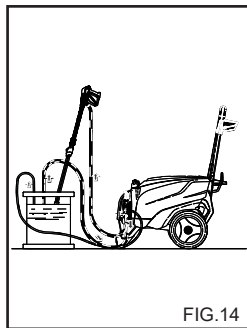

FIG.14
**FREMANGSMÅTE VED BRUK AV DEFROSTER (fig. 14).**